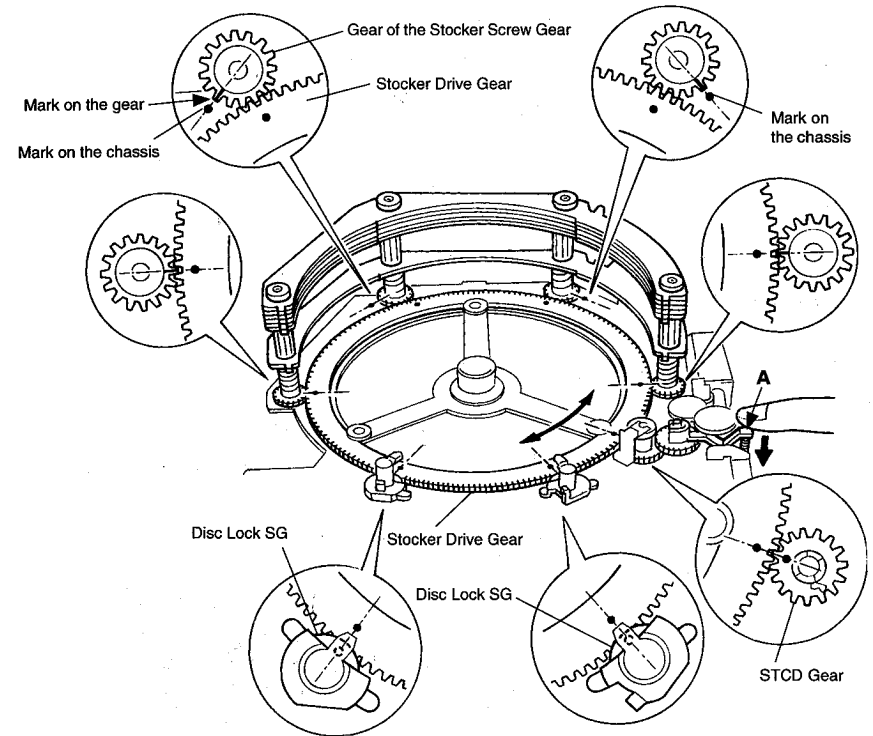

Fig. 3.1
Refer to Fig. 3.1.
**NOTE:** To turn the large Stocker Drive Gear, depress the part "A" with your finger tip as shown in Fig. 3.1.
The STCD Gear and two Disc Lock SGs must be positioned as shown in Fig. 3.1.
The four Stocker Screw Gears must be positioned as shown in Fig. 3.1.